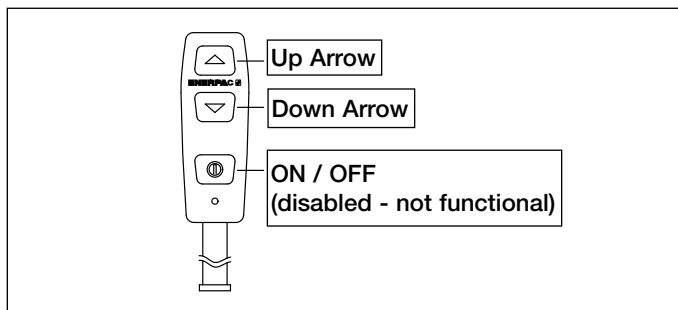

Figure 6
### 5.1 Pendant Operation (see Figure 6)
Oil flow and motor operation are controlled by the pendant buttons. The pump will run and the cylinder will clamp when the pendant Up-Arrow button is pressed. The pump will run and the cylinder will unclamp when the pendant Down-Arrow button is pressed. Releasing either button at any time will stop the pump and will relieve pressure in the hoses (see Fig. 6).
4. Press and hold the Up-Arrow button on the pendant. (see figure 6). Allow pressure to build.
- b. Press and hold the Up-Arrow button on the pendant. (see figure 6). Allow pressure to build.
8. Release the Up-Arrow button. Check that gauge indicates zero (0) psi.